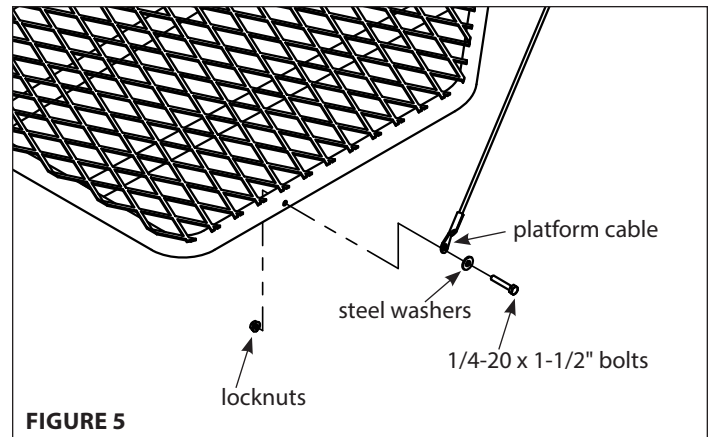

FIGURE 5
2. Attach cable (48212) ends to the platform (CXR12) using (2) provided 1/4-20 x 1-1/2" bolts, locknuts and steel washers. **SEE FIGURE 5. You must now tighten all nut & bolt assemblies securely. Be sure not to over tighten or crush tubing when tightening!**